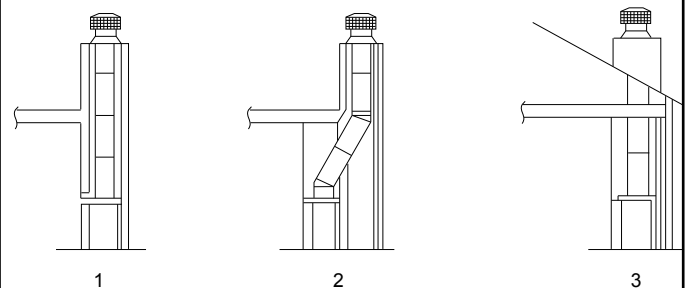

Figure 3.4 Chase Constructions
A chase is a vertical boxlike structure built to enclose the fireplace and/or its vent system. Vertical chimneys that run on the outside of a building must be installed inside a chase. See Figure 3.4.
- In cold climates, the walls of the chase should be insulated to the level of the false ceiling as shown in Figure 3.4. This will help reduce heat loss from the home around the fireplace.
Three examples of chase applications are shown in Figure 3.4.